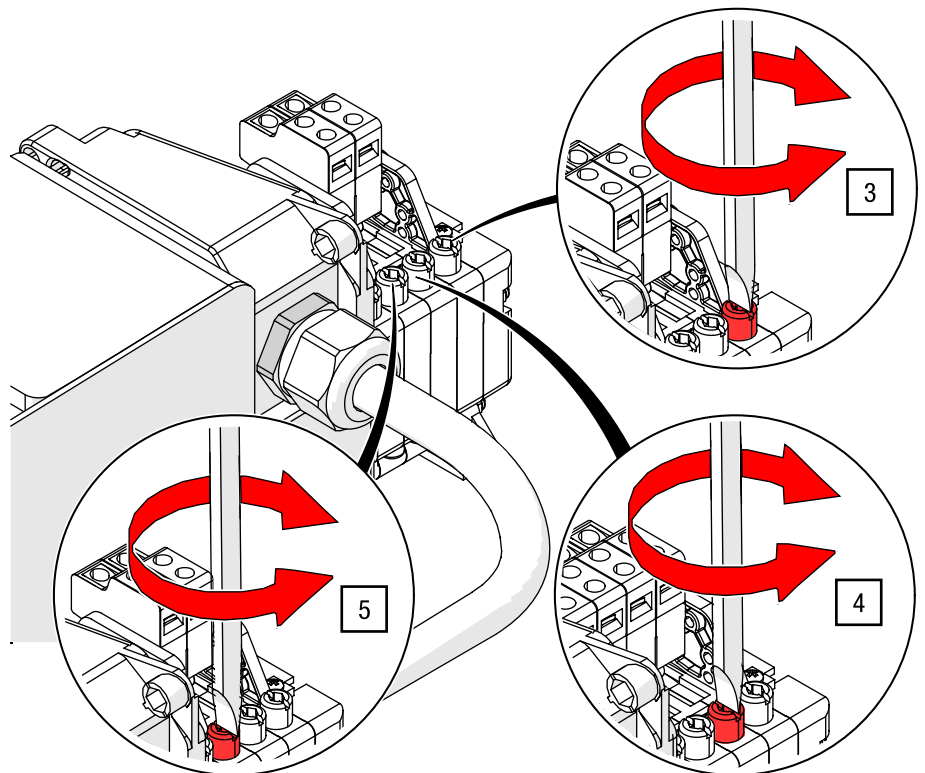

Fig. 45: Setting the emergency limit switches – adjusting the emergency limit switches
3 Adjusting the emergency limit bottom (Fig. 45)
4 Adjusting the emergency limit top (Fig. 45)
5 Adjust both emergency limits simultaneously (Fig. 45)
3. Turn the adjustment screw for the lower emergency limit by turning it clockwise (to move it upwards) or anticlockwise (to move it downwards) using a flat-head screwdriver / HEX (see Fig. 45).
4. Turn the adjustment screw for the upper emergency limit as per step 3 (see Fig. 45).
5. Set both emergency limit positions together by turning the adjustment screw clockwise (to move them upwards) or anticlockwise (to move them downwards) using a flat-head screwdriver (see Fig. 45).